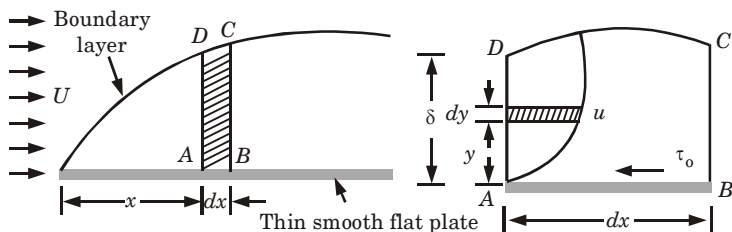

Fig. 3.27.1.
1. Let us consider a thin smooth flat plate with boundary layer as shown in Fig. 3.27.1.
4. Now take the element $ABCD$, τ_0 is the wall shear stress acting on the plate and velocity variation in strip $ABCD$ is also shown in the Fig. 3.27.1.